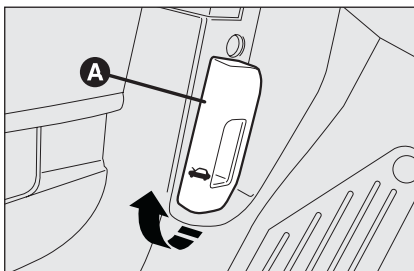

fig. 96
- ☐ pull lever **A-fig. 96** in the direction of the arrow;